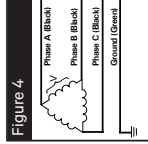

Figure 4
- 208D = 208V Delta - 3Ø, 3W+Grnd (Fig 4)
- 240D = 240V Delta - 3Ø 3W+Grnd (Fig 4)
- 480D = 480V Delta - 3Ø 3W+Grnd, (Fig 4) & HRG Wye
- 415D = 415V Delta - 3Ø, 3W+Grnd (Fig 4)